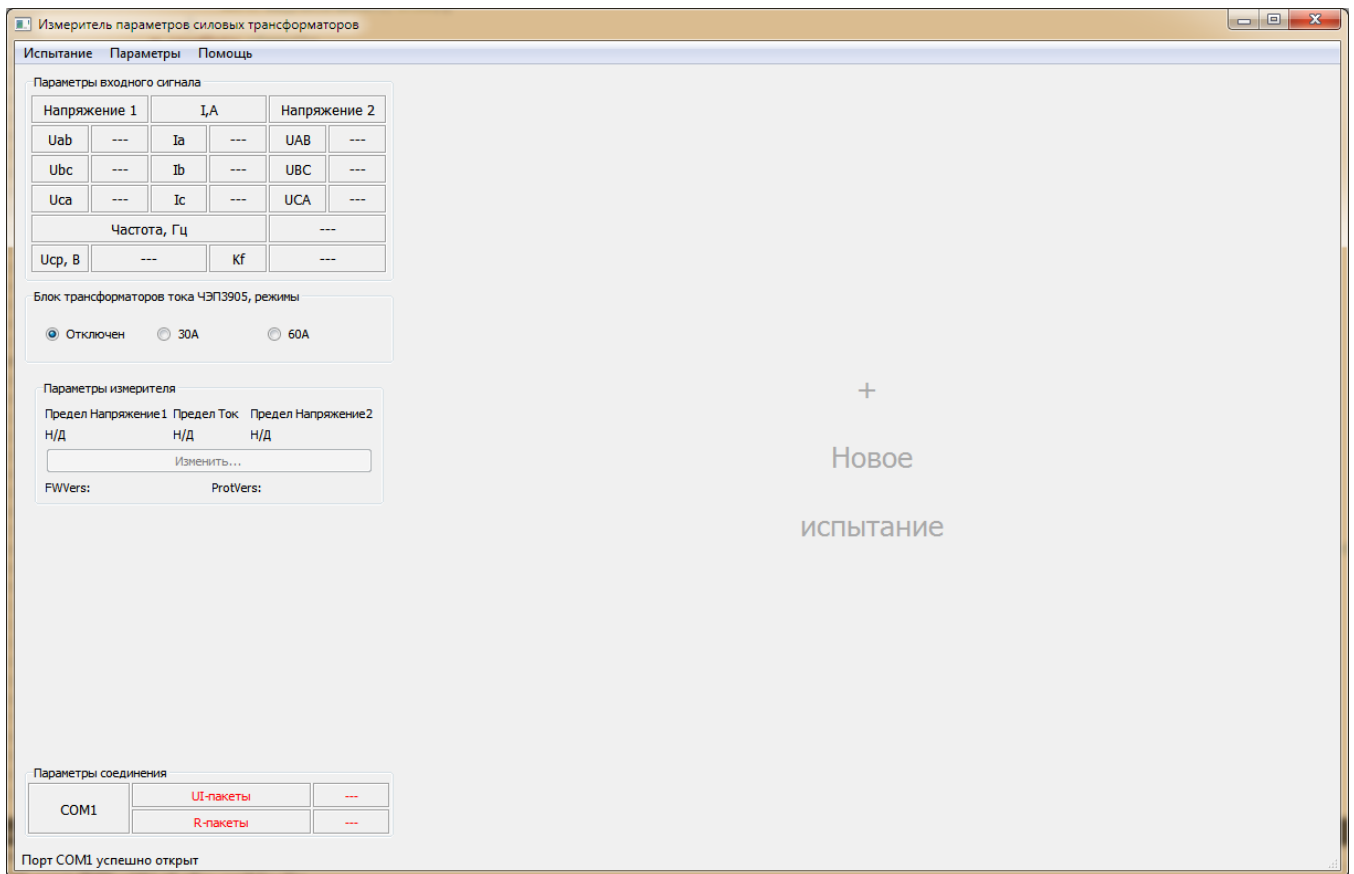

Fig. 4. The Main Working Window of SEIT Software.
After starting the software, the main working window is displayed. It is shown in Fig.4.
- 1) Start the software and wait for the loading and displaying the main working window (Fig.4.).